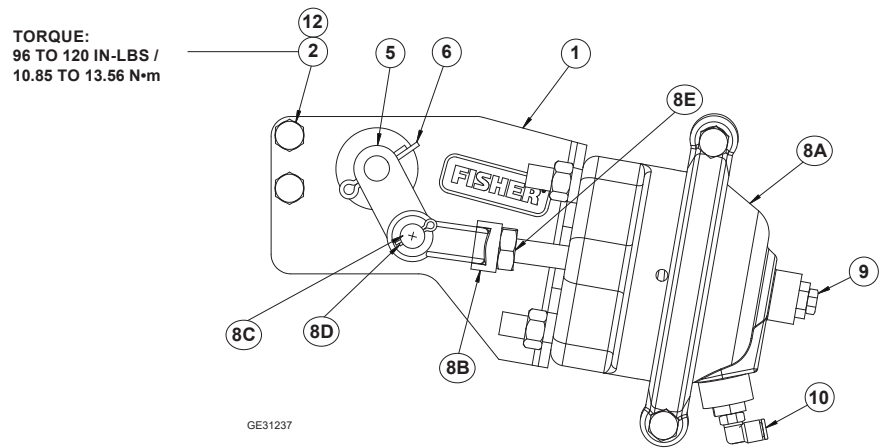

Figure 4. Type P613 for Type C484-24 Internal Valves
A pneumatic supply air valve or switching valve installed at a desired location allows air pressure to be applied to the actuator. The pressure supply moves the clevis (key 8B, Figures 4 to 7) and the internal valve's operating lever (key 5, Figures 4 to 7), opening the valve. Upon loss of air pressure, the valve's operating lever immediately returns to the closed position. Pneumatic supply pressure sources include dry/filtered air, nitrogen or carbon dioxide. Before beginning, refer to Figure 8 for proper cam orientation.
Type P613—Mount the bracket (key 1) to the flanges with two bolts (key 2) and two lock washers (key 14) using 96 to 120 in-lbs / 10.85 to 13.56 N•m torque as shown in Figure 4, fitting the operating lever (key 5) on the internal valve shaft.
Parts Lists for Types P613, P623 and P639A (Figures 4 through 6)